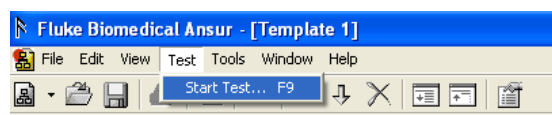

Figure 3-5. Starting a Test Template
6. Click **Test | Start Test** or click the Start Test toolbar button (), or push **F9** on the keyboard as shown in Figure 3-5.